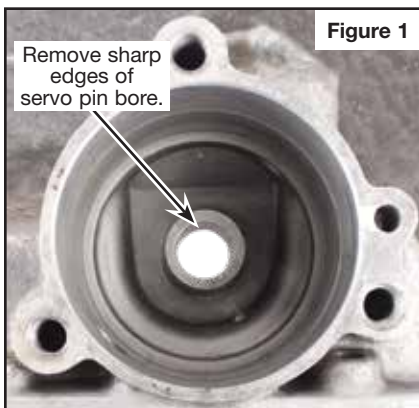

Figure 1
5. Using round file or fine sandpaper, remove sharp edge of servo pin bore to prevent O-ring damage during installation (**Figure 1**). Clean thoroughly after removing sharp edge.